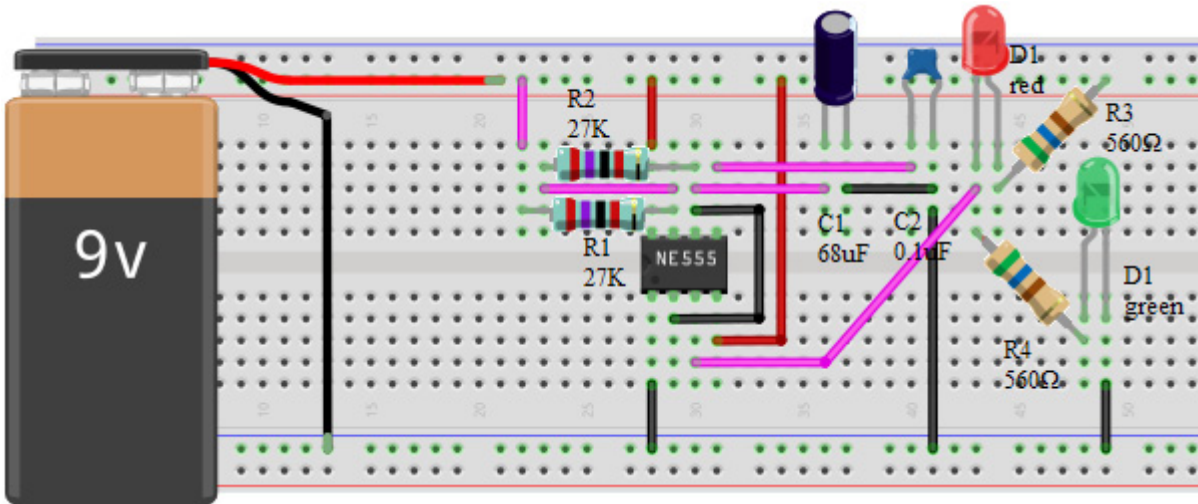

Figure 8-12: Astable multivibrator with 555 timer circuit connection
1. Connect the circuit as illustrated in figure 8-12. Connect the power (positive) and ground (negative) to pins 8 and 1 respectively. You can use power supply from 5V to 15V. Connect 0.1nF capacitor C_2 between pin 5 and ground. Connect 68 μ F electrolytic capacitor C_1 between pin 6 and ground and make sure that the negative lead of capacitor is at ground. Connect pin 2 to pin 6 with a jumper wire. Connect 27K Ω resistor R_1 between VCC and pin 7. Connect 27K Ω resistor R_2 between pin 7 and pin 6. Connect pin 4 to VCC.